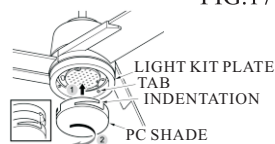

FIG.18
6. Attach the PC shade by locating tabs in light kit with grooves on the light shade and twist clockwise until tight (see Fig.18)